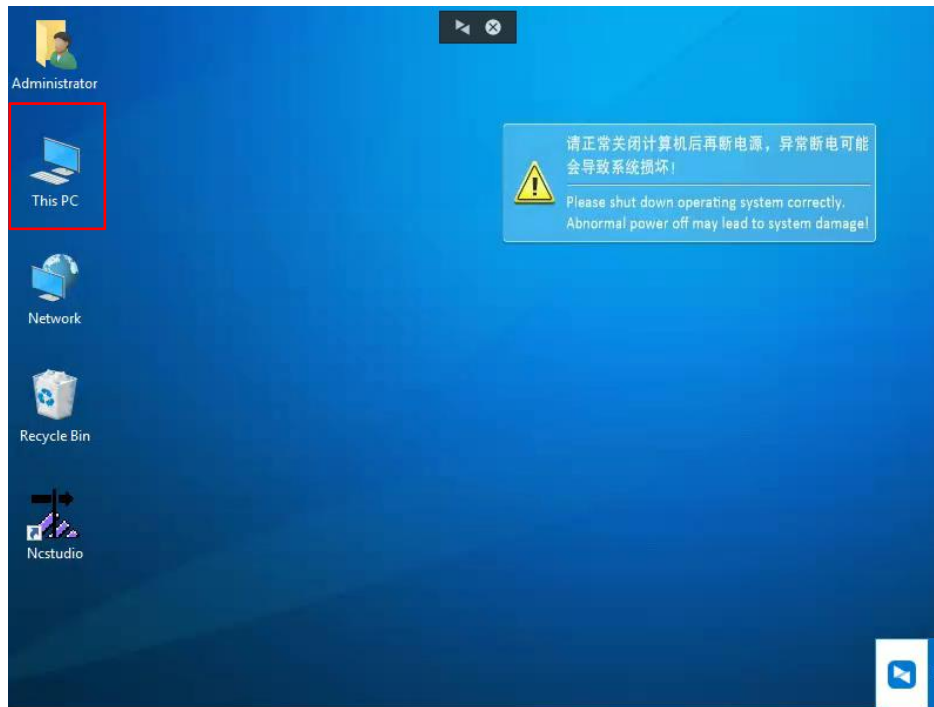

Figure 7.2.4 This PC
(4) The software system desktop will be displayed, as shown in Figure 7.2.4. Double-click "This PC."